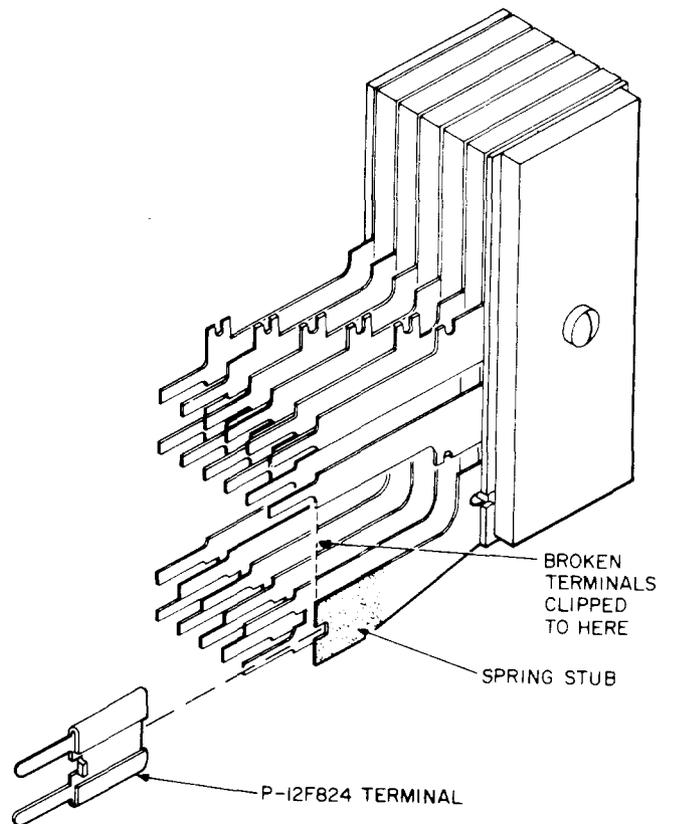

Fig. 13—Repair of Wire-Wrap Terminals Using P-12F824 Terminal
4.27 To repair wire-wrap terminals using the P-12F824 terminal, clip off any remaining stubs of the original wire-wrap terminals as shown in Fig. 13. Tin the spring stub approximately 3/8 inch from clipped end. Slip the P-12F824 terminal over the stub and plier-crimp in place. Reheat the joint to flow solder. Do not add more solder when making this connection. It is not permissible to make solderless wire-wrap connections on a terminal when solder splashes are present. Two solderless wire-wrapped connections can be made to the repaired terminal.